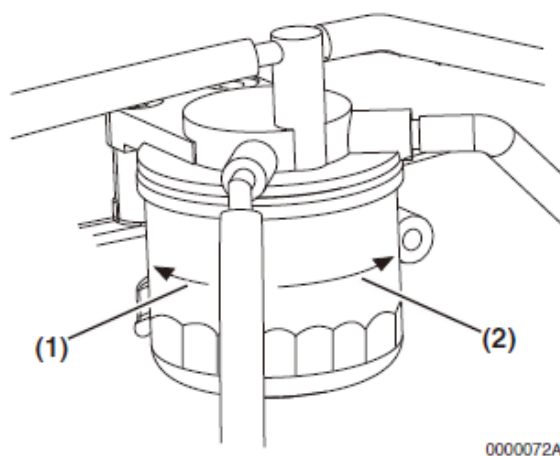

Fig.9-14
3. Remove the fuel filter using a filter wrench to turn it to the left (**Fig.9-14, (1)**). When removing the fuel filter, carefully hold it to prevent the fuel from spilling. Wipe up all spilled fuel.
5. Install the new fuel filter. Hand-tighten it to the right (**Fig.9-14, (2)**) until it comes in contact with the mounting surface. Use a filter wrench and tighten to 14-17 ft-lb (19.6-23.5 N•m, 2.0-2.4 kgf/m) or one additional turn using the filter wrench.